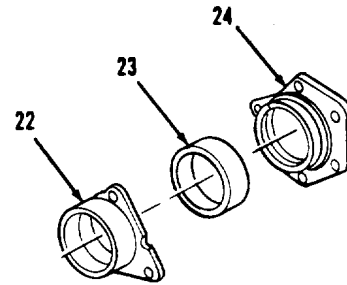

Figure 3-14.
Remove trunnion (22) and ring (23) from support (24, Figure 3-14).
1. Install ring (23) in support (24, Figure 3-14). Ring (23) must be recessed 0.040 to 0.080 inch from back edge of support (24).
2. Install trunnion (22). Lubricate inner diameter of ring (23) with 3 percent soap solution.